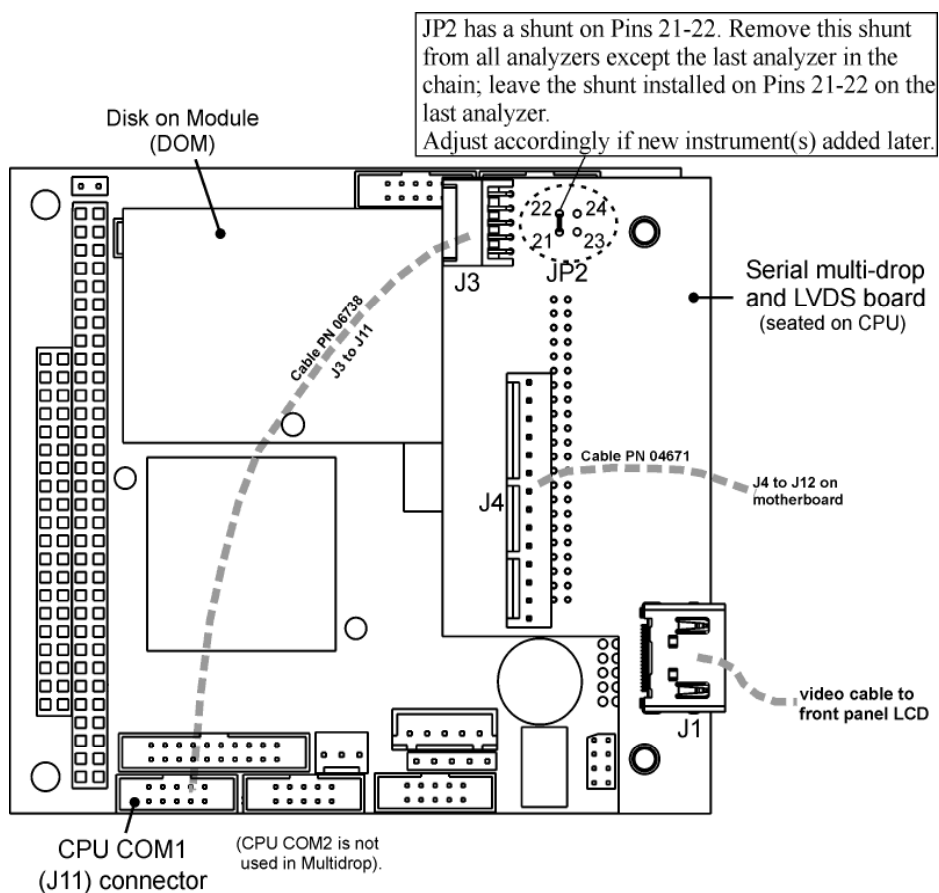

Figure 3-16: Jumper and Cables for Multidrop Mode
In each instrument with the Multidrop option there is a shunt jumpering two pins on the serial Multidrop and LVDS printed circuit assembly (PCA), as shown in Figure 3-16. This shunt must be removed from all instruments except that designated as last in the multidrop chain, which must remain terminated. This requires powering off and opening each instrument and making the following adjustments:
3. Check that the following cable connections are made in *all* instruments (again refer to Figure 3-16):